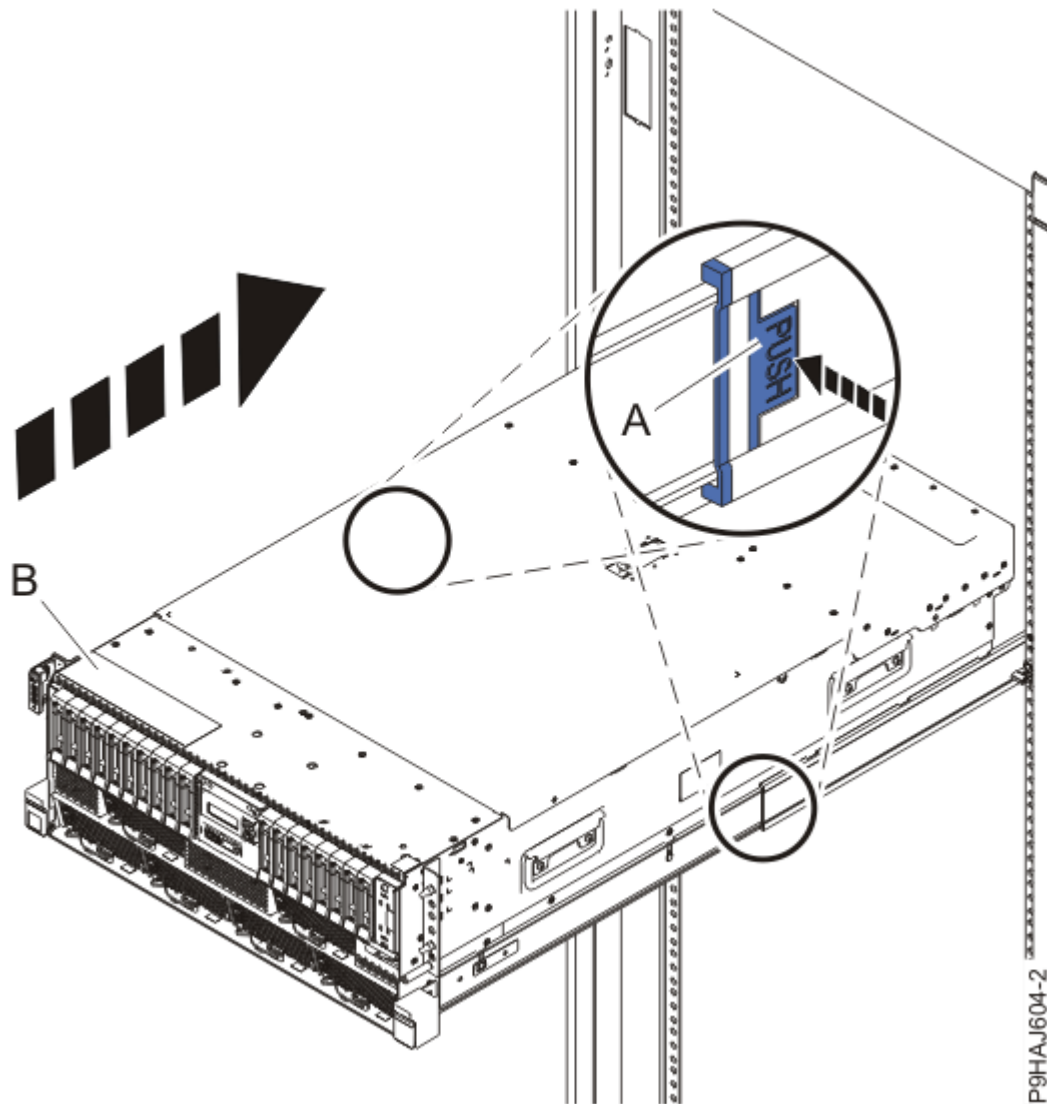

Figure 36. Placing the system into the operating position
3. For a rack-mounted system, unlock the blue rail safety latches **(A)** as shown in Figure 36 on page 37 by pushing them inward.